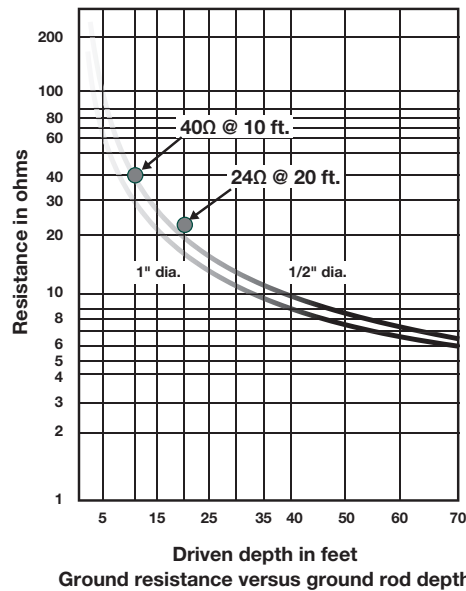

Figure 11
**Depth:** As a ground rod is driven deeper into the earth, its resistance is substantially reduced. In general, doubling the rod length reduces the resistance by an additional 40% (Figure 11). The NEC (2014, 250.53 G) requires a minimum of 8 ft. (2.4m) in contact with the soil. NEC (2014, 250.53 G) states that rod electrodes of stainless steel and copper or zinc coated steel shall be at least 15.87mm (5/8 in) diameter, unless listed and not less than 12.70mm (1/2 in) in diameter.